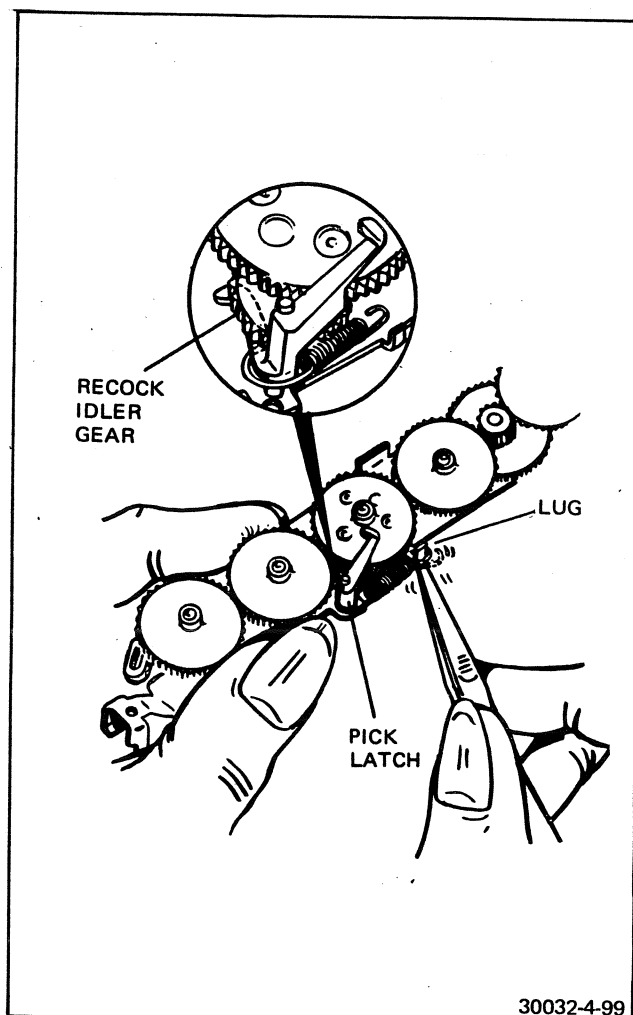

FIGURE 4-99 INSTALLING THE PICK LATCH
32. Place the pick latch spring on the pick latch and install the short, hooked end of the pick latch under the recock idler gear (Figure 4-99).